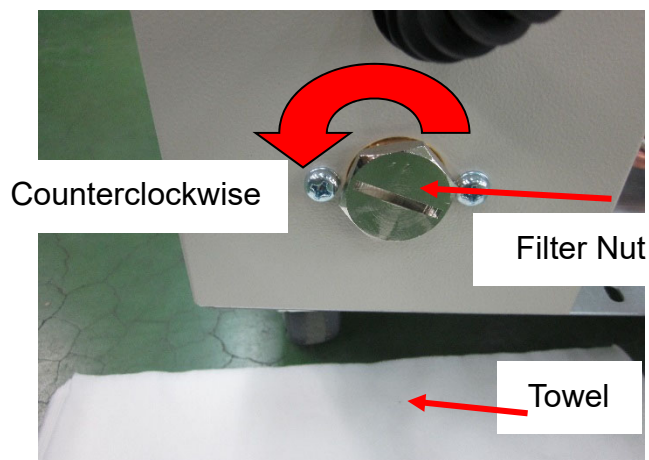
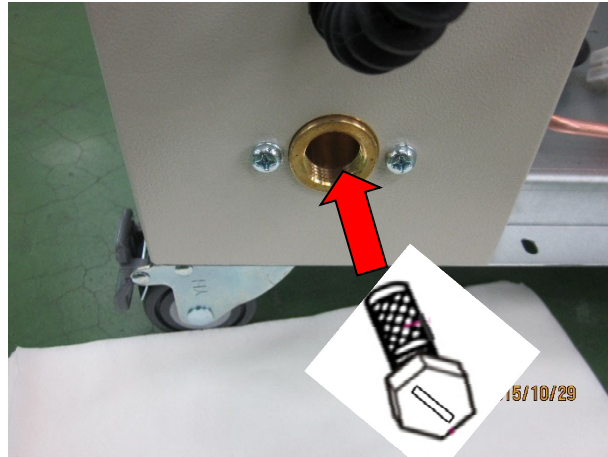

Figure 18
Figure 20
- Clean the filter use a wrench (or Knife Screwdriver) to unscrew the filter nut counterclockwise as shown in Figure 18 to Figure 20.
Take out the filter carefully, and flush it with water to clean it. Assemble it back as shown in Figure 20.